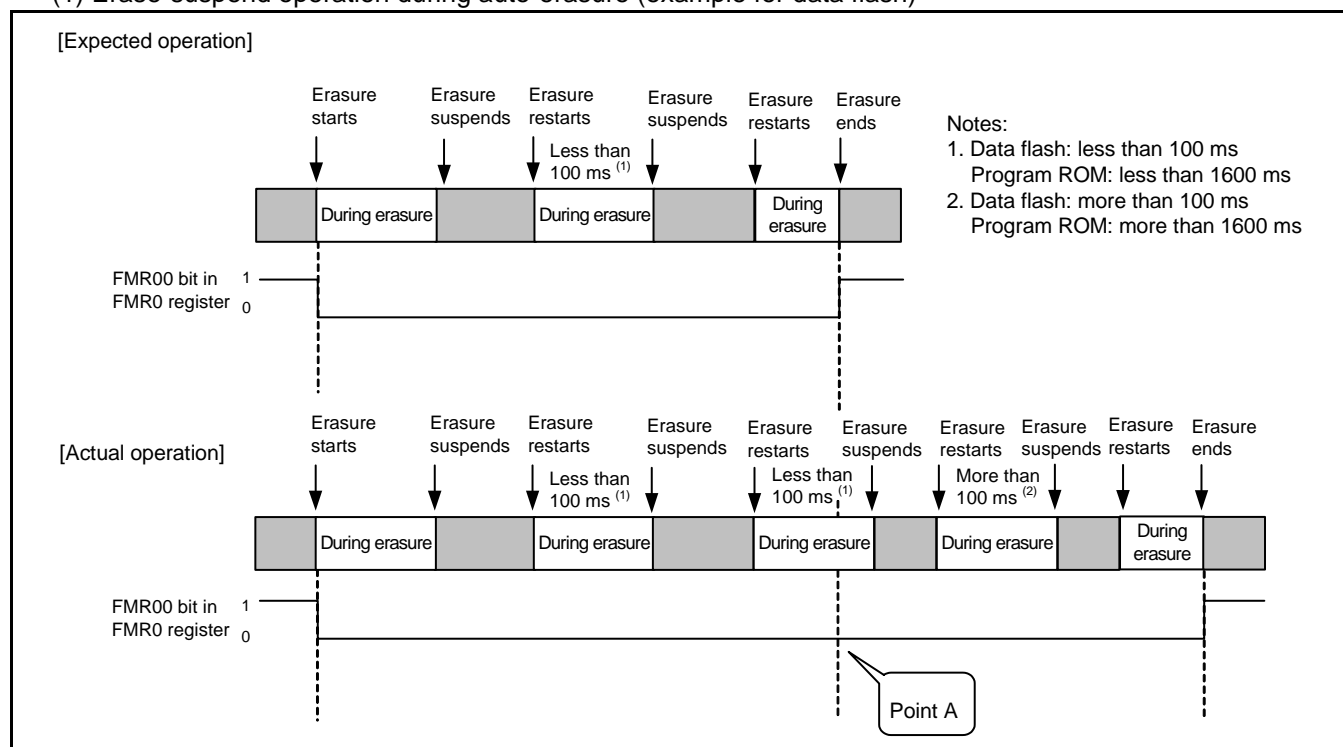

Figure 1. Erase-Suspend Operation During Auto-Erasure
- (1) The erase-suspend is continuously generated at less than 100 ms from the erase-restart while 1 Kbyte data flash (block A and block B) is automatically erased in CPU rewrite mode. (Point A in Figure 1)
- (2) The erase-suspend is continuously generated at less than 1600 ms from the erase-restart while 32 Kbyte program ROM (block 0, block 1, block 2, and block 3) is automatically erased in CPU rewrite mode. (Point A in Figure 1)